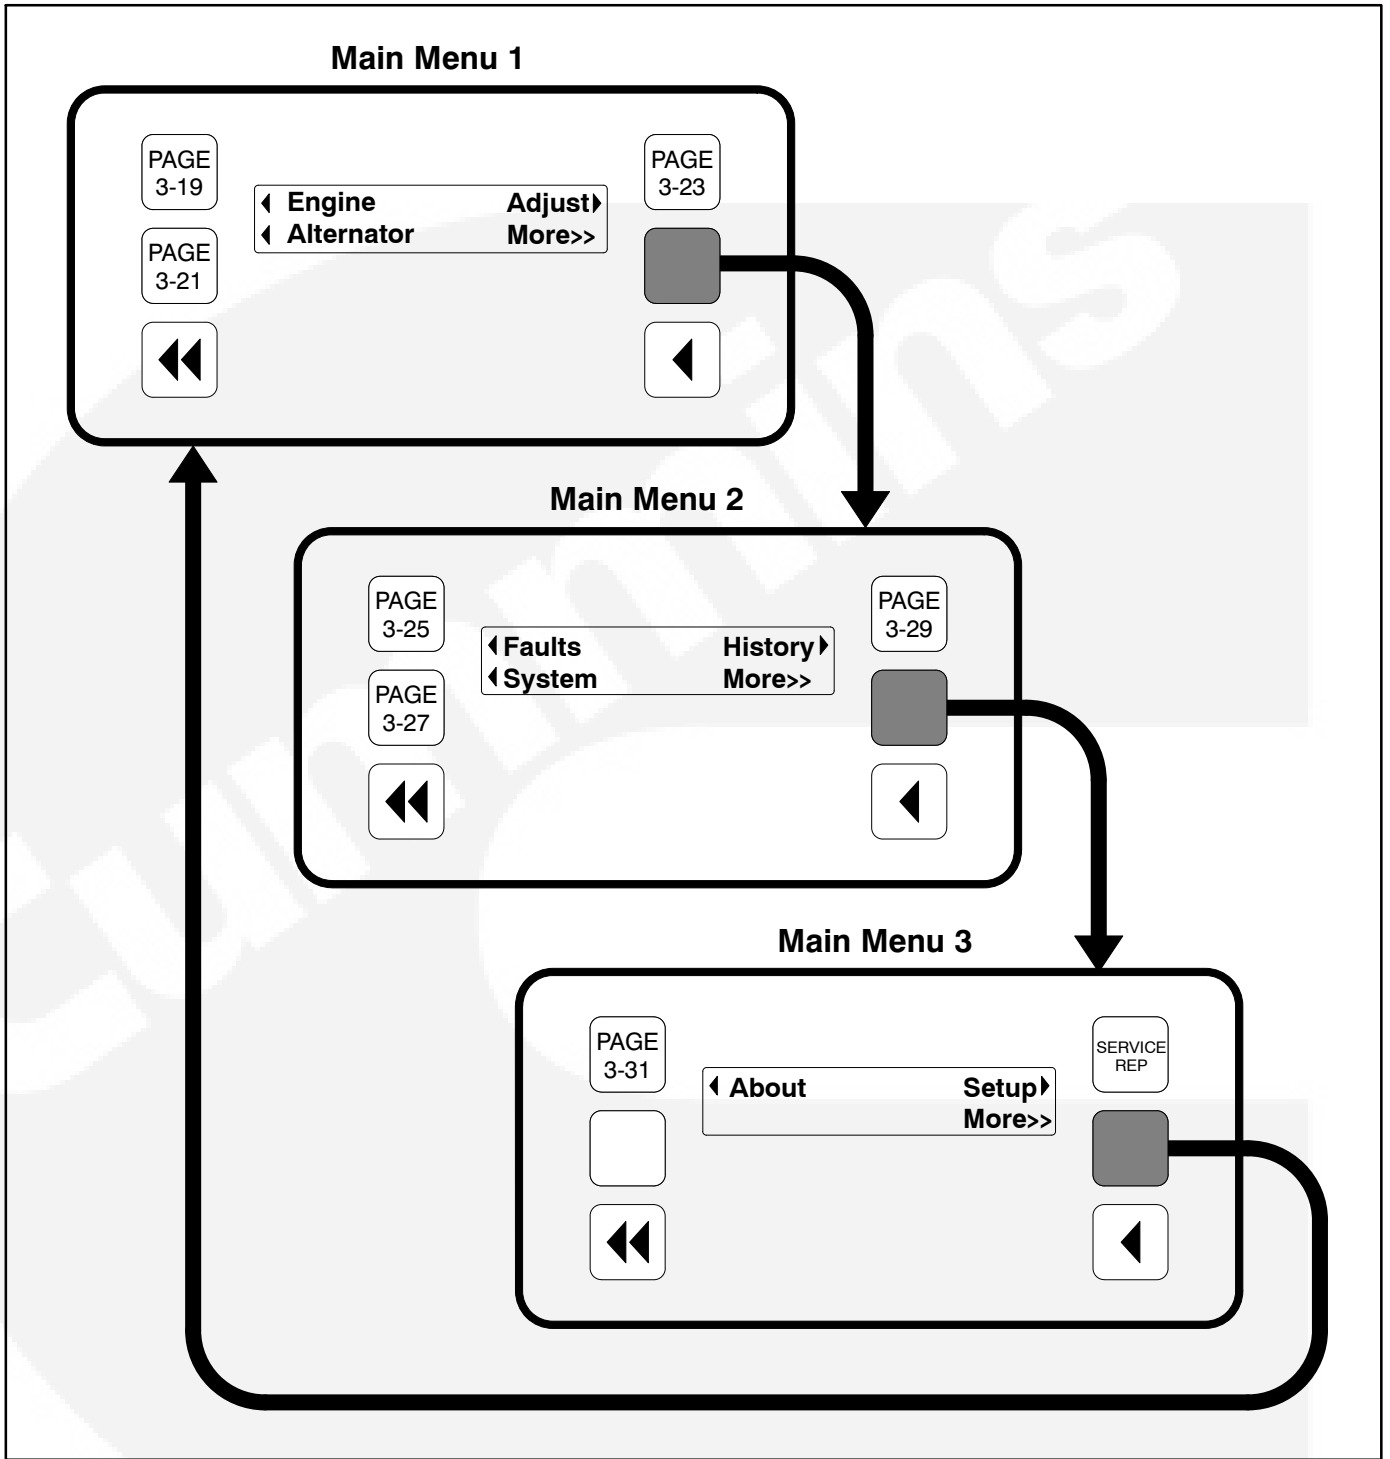

FIGURE 3-5. MAIN MENUS
- In the digital display for main menus (Figure 3-5), the ◀ and ▶ symbols indicate that pressing the adjacent button causes the operating program to go to the selected submenu (e.g., Engine Menu in Figure 3-9).
- In the digital display, the More>> symbol indicates that pressing the adjacent button causes the operating program to go to the next main menu, as shown in Figure 3-5.
Home Button: Pressing this button causes the operating system to show Main Menu 1 (Figure 3-5) in the digital display.
Figure 3-5 shows the three major main menus available to the user. Figure 3-5 also includes references to pages in this section where you can find additional information on submenus. When viewing a submenu, you can press the previous main menu button at any time to view its main menu.